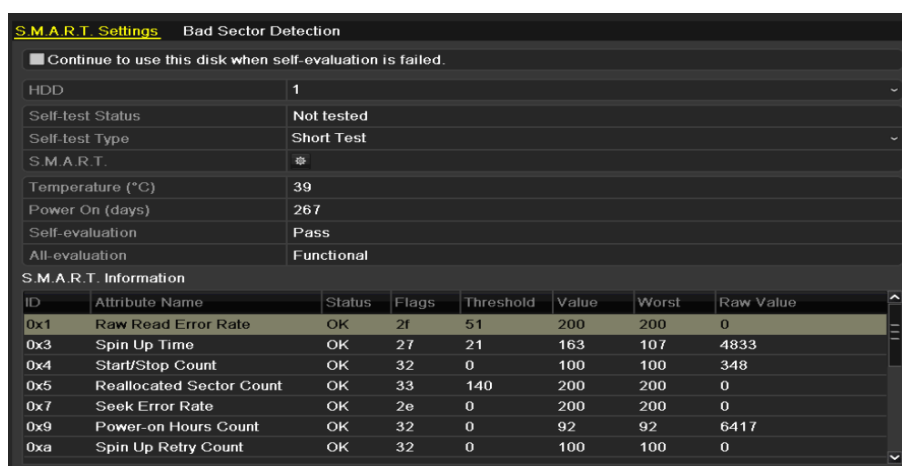

Figure 11. 22 S.M.A.R.T Settings Interface
2. Select the HDD to view its S.M.A.R.T information list, as shown in Figure 11. 22.